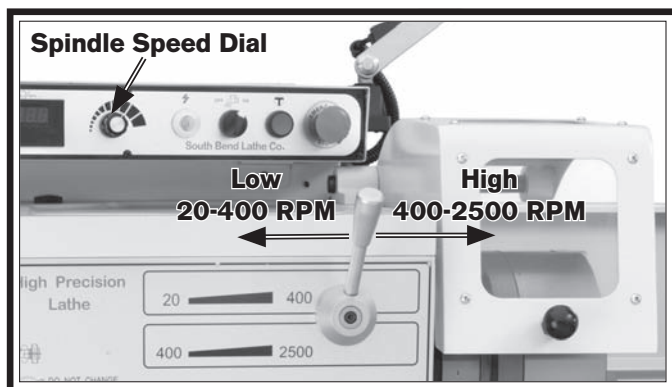

Figure 18. Spindle speed controls.
6. Turn the spindle speed dial (**Figure 18**) all the way counterclockwise (lowest speed) to avoid possibility of a high-speed start.
7. Move the spindle speed range lever (**Figure 18**) to the left so the headstock is set in the low range (20-400 RPM). (You may need to slightly rotate the chuck by hand to engage the lever.)